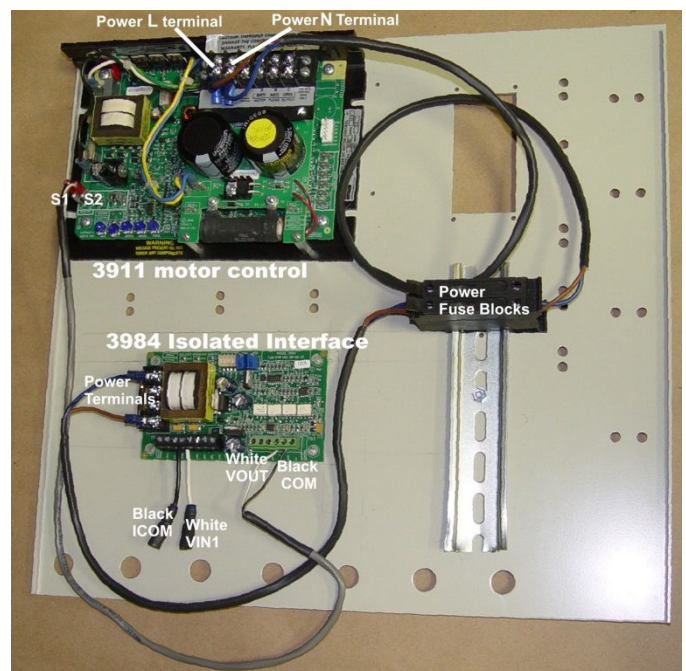

Figure 1 Motor control Panel Layout
- 4.5 Using the supplied Mounting Template for the 3984 Isolated Interface Module, mark for 4 holes. Drill using 4 mm (5/32 inch) drill bit. In a convenient place on the motor control panel. (see Figure 1)
- 4.8 Take these same wires and Plug black S1 into ICOM and white S2 into VIN1 connectors on the 3984 Isolated Interface Module. (see Figure 1)